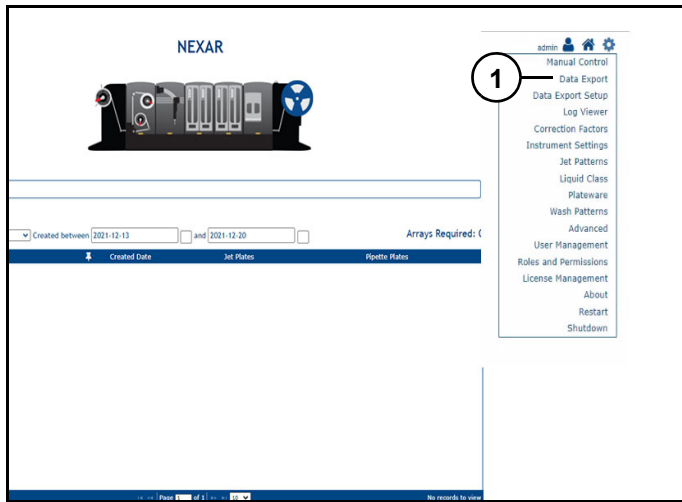

Figure 10
Data Export (1) (Figure 10): Opens data export page.